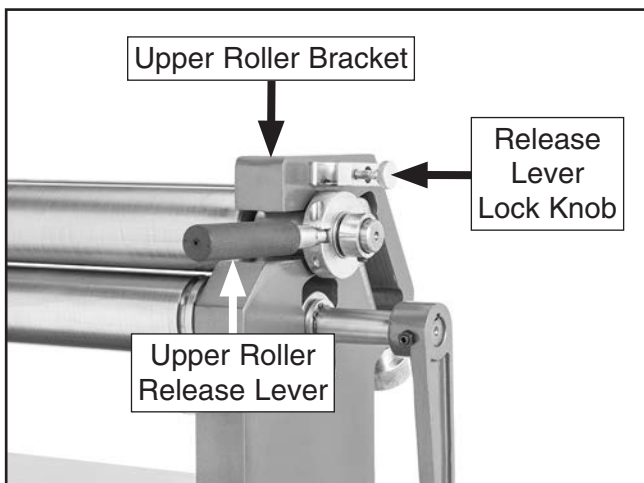

Figure 28. Upper roller release lever pulled down.
- Rotate release lever lock knob counterclockwise until upper roller release lever can be pulled down, and flat edges of upper roller bracket are parallel with slots in frame (see **Figure 28**).